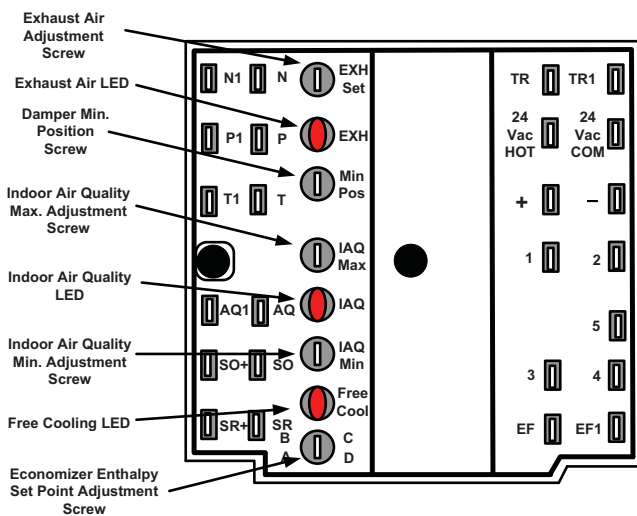

Figure 18: Honeywell Economizer Control W7212
- For a single enthalpy operation carefully turn the set point adjusting screw (found on the damper control module) to the "A", "B", "C" or "D" setting corresponding to the lettered curve of the Enthalpy Set Point Adjustment Figure 18.